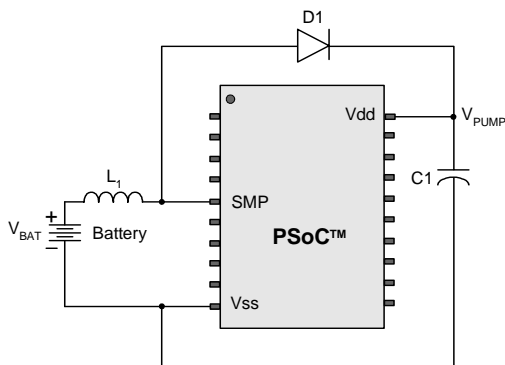

Figure 3-2. Basic Switch Mode Pump Circuit
a. L1 = 2 μH inductor, C1 = 10 μF capacitor, D1 = Schottky diode. See Figure 3-2.